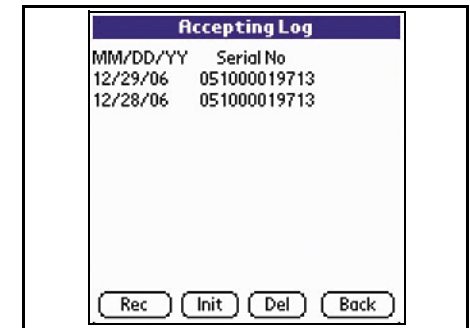

Figure 16 Acceptance Log Screen
The bottom of the Figure 16 screen provides the following button selection options:
4. After filling the Identifiers ID fields, select 'OK'. The DBV will then transfer its current data, and create a new Acceptance Log on the PDA. The user will then be returned to the primary Accepting Log Screen previously shown in Figure 16.
2. The screen shown in See Figure 16 will appear. Acceptance Log data files available for viewing are listed by date and DBV serial number.